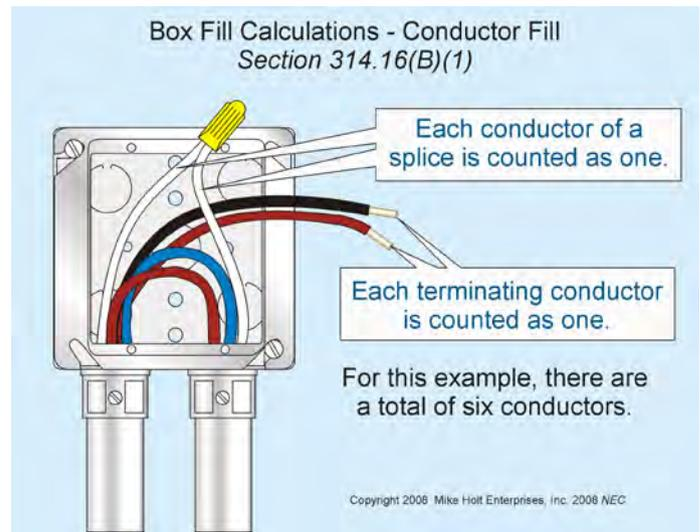

Figure 314-3
(1) Conductor Volume. Each unbroken conductor that runs through a box, and each conductor that terminates in a box, is counted as a single conductor volume in accordance with Table 314.16(B). **Figure 314-3**